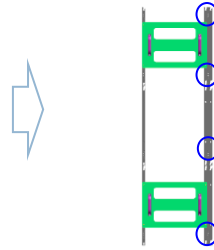

Fig3. Fasten the Screw
- ※ Third, fasten the ② Bracket Center using Screws. [Fig.3]